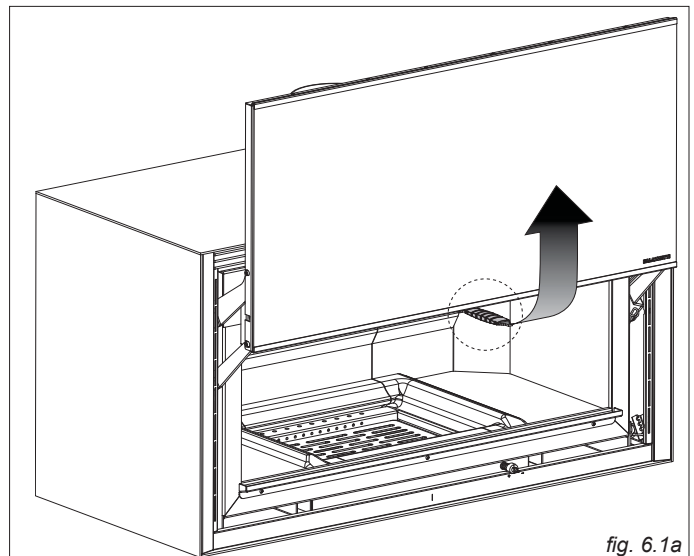

fig. 6.1a
- **IKI 16: 9 and IKI Square:** insert the supplied key in the central hook of the door (Fig. 6.1a), and pull it towards you. **Warning!** a system with springs tend to automatically lift the door.